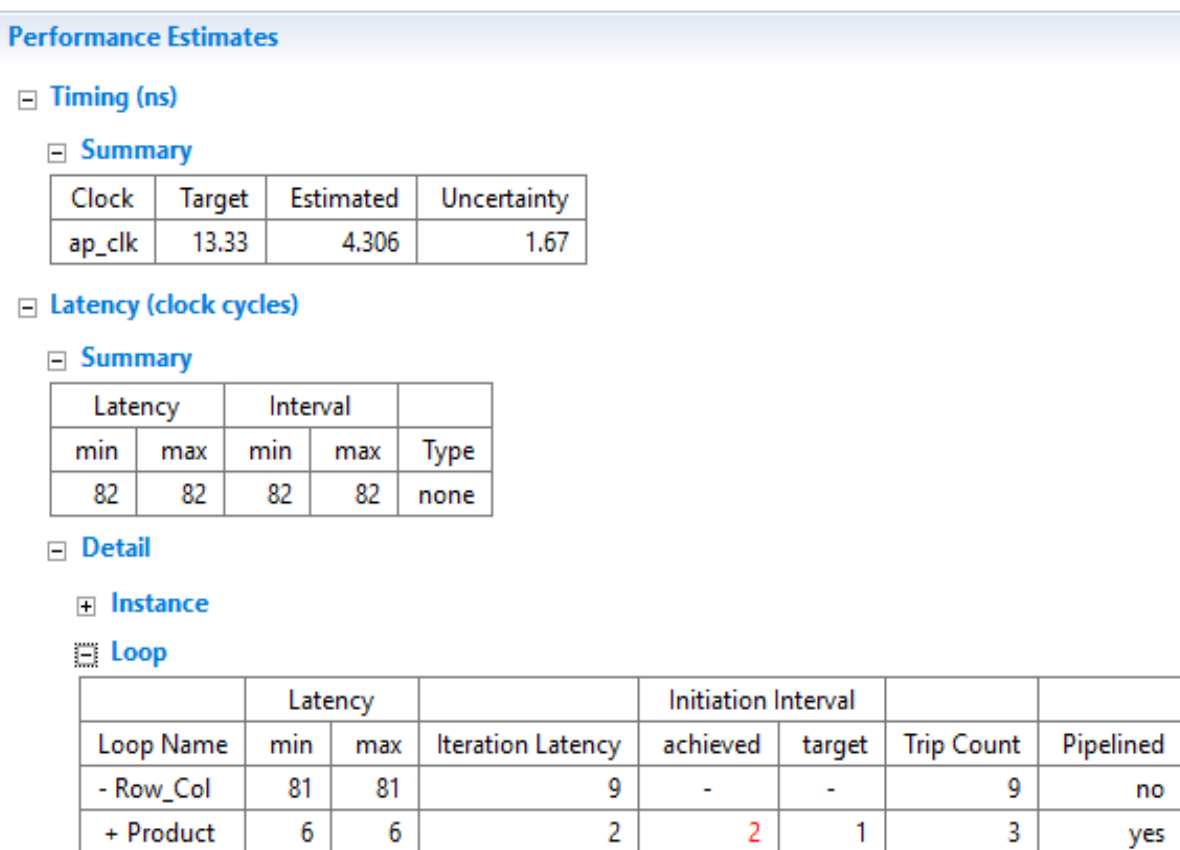

Figure 7-6: Matrixmul Initial Pipeline Report
The synthesis report (Figure 7-6) shows that although the Product loop is pipelined with an interval of 2, the interval of top-level loop is not pipelined.
More importantly, it is worth addressing why only an initiation interval (II) of 2 was possible for the Product loop (as shown in Figure 7-6).